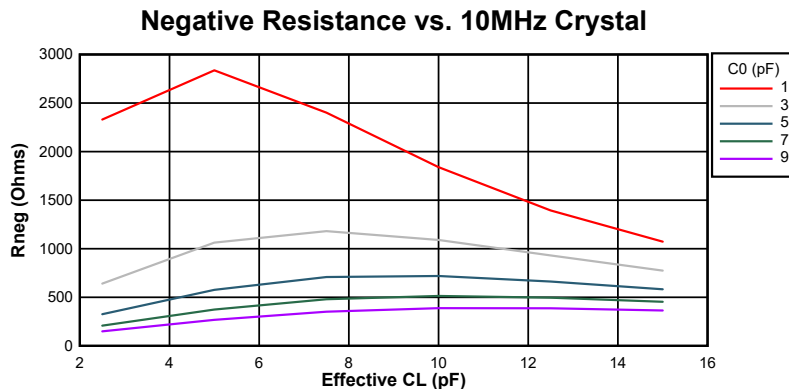
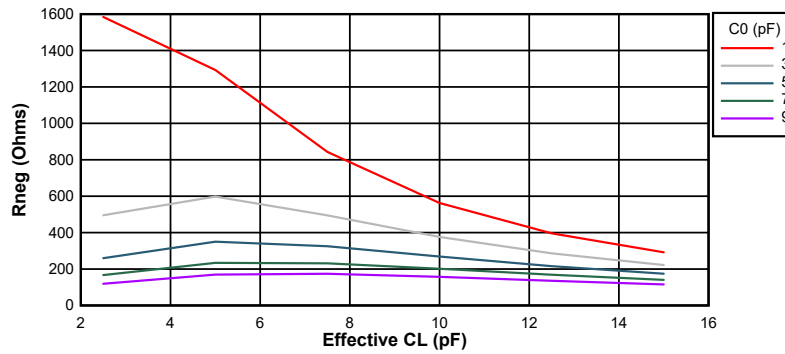

Figure 6-18. Negative Resistance Variation at 10 MHz
Figure 6-19. Negative Resistance Variation at 20 MHz
Figure 6-18 and Figure 6-19 show the variation between negative resistance and the crystal components for this device. As can be seen from the graphs, the crystal shunt capacitance (C0) and effective load capacitance (CL) greatly influence the negative resistance of the electrical oscillator. Note that these are typical graphs; so, refer to Table 6-8 for minimum and maximum values for design considerations.